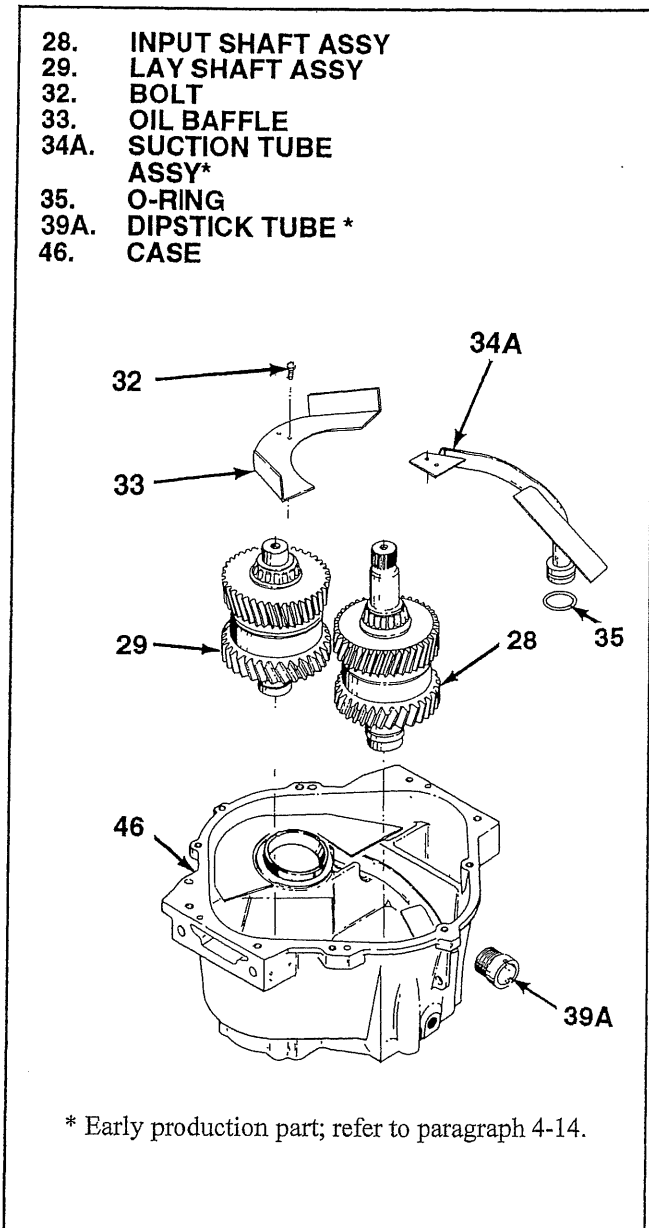
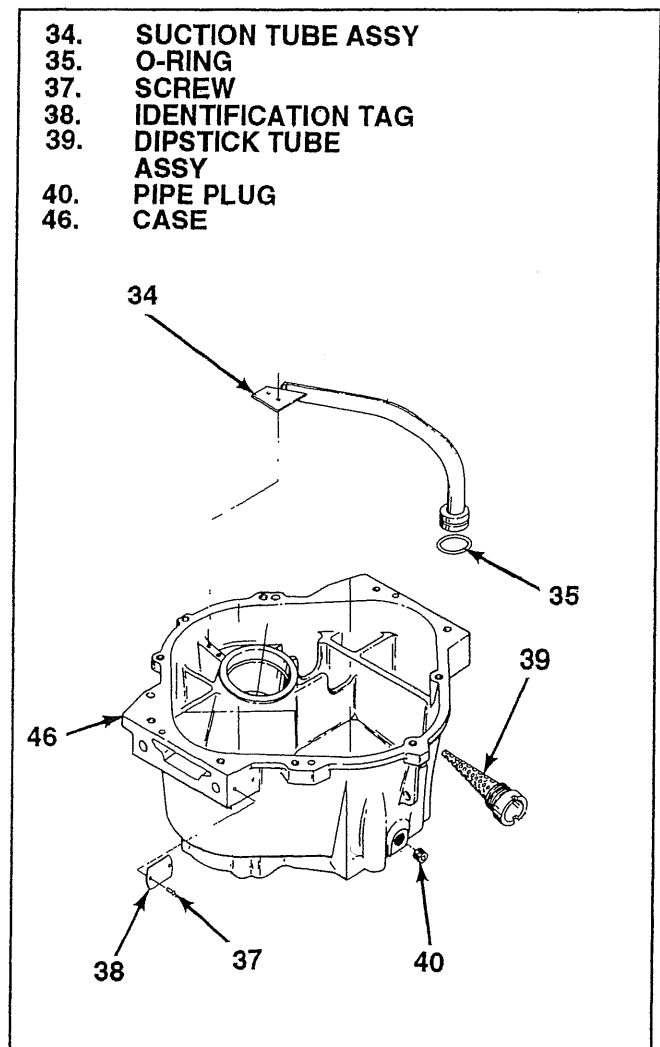

Figure 3-4. Input and Lay Shaft Assemblies
Figure 3-5. Case Components
**3-10. REMOVAL OF INPUT AND LAY SHAFT ASSEMBLIES.** With open end of transmission up, proceed as follows (see figure 3-4):
1. Remove two bolts (32), oil baffle (33) and the oil suction tube assembly with dipstick guide (34A), if used. Remove oil filler tube with dipstick tube assembly (39). If the oil dipstick tube (39A) is used, it need not be removed.
2. Pull input shaft assembly (28) and lay shaft assembly (29) straight up out of case (46).
**3-11. REMOVAL OF CASE COMPONENTS.** After removing shaft assemblies, remove remaining case components as follows (see figure 3-5):
1. Remove suction tube assembly (34) if not already removed in paragraph 3-10. Remove o-ring (35) from groove on suction tube assembly.
3. Remove pipe plug (40) to ensure proper galley cleaning.